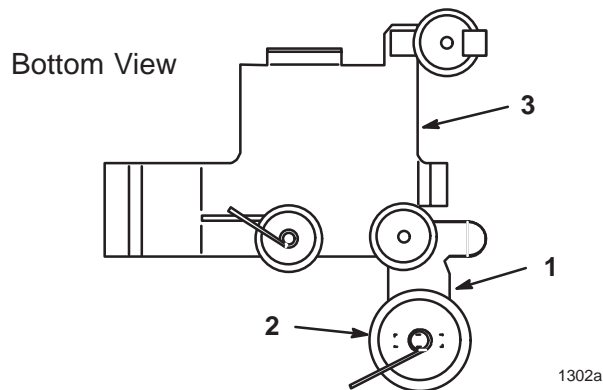

Figure 29
2. As the drive belt wears, and the tiller is raised and lowered, the spring loaded idler arm moves.(Fig. 29).